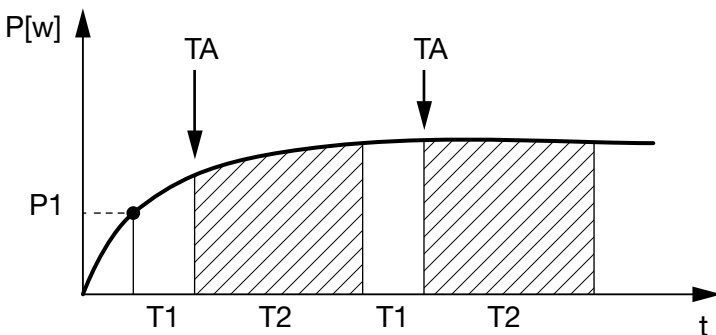
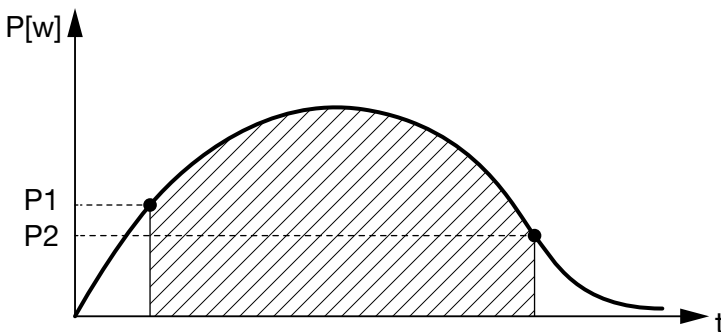

Fig. 66: Self-consumption graph (Function 1)
Fig. 67: Self-consumption graph (Function 2)
7. Select function 1  **Fig. 66** or 2  **Fig. 67**.